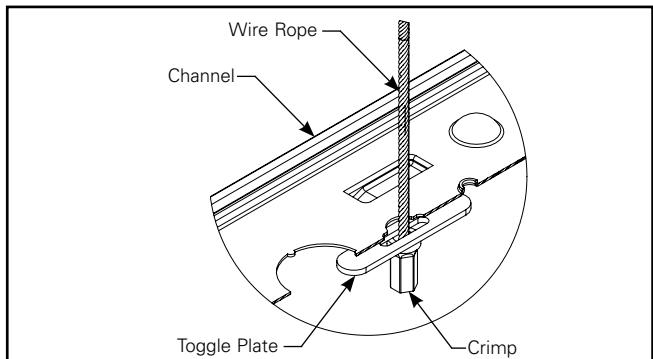

Figure 4.3.
- C. After inserting, ensure the toggle plate thickness surface parallel to top surface and inside the channel (Figure 4.3).